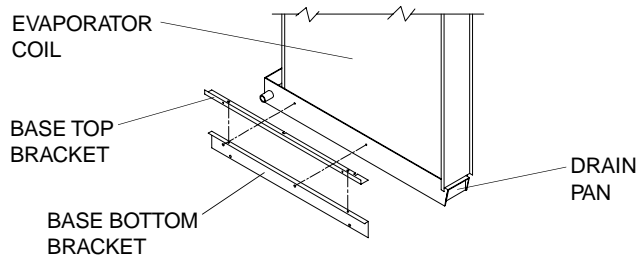

FIGURE 1 - BASE BRACKET ASSEMBLY
1. Remove the two (2) screws on the control access panel and remove the panel.
2. Assemble the base top bracket to the base bottom bracket with two (2) #10 screws. See Figure 1.
3. Place the base bracket assembly into the unit and attach to the drain pan with two (2) #10 screws. See Figure 1.